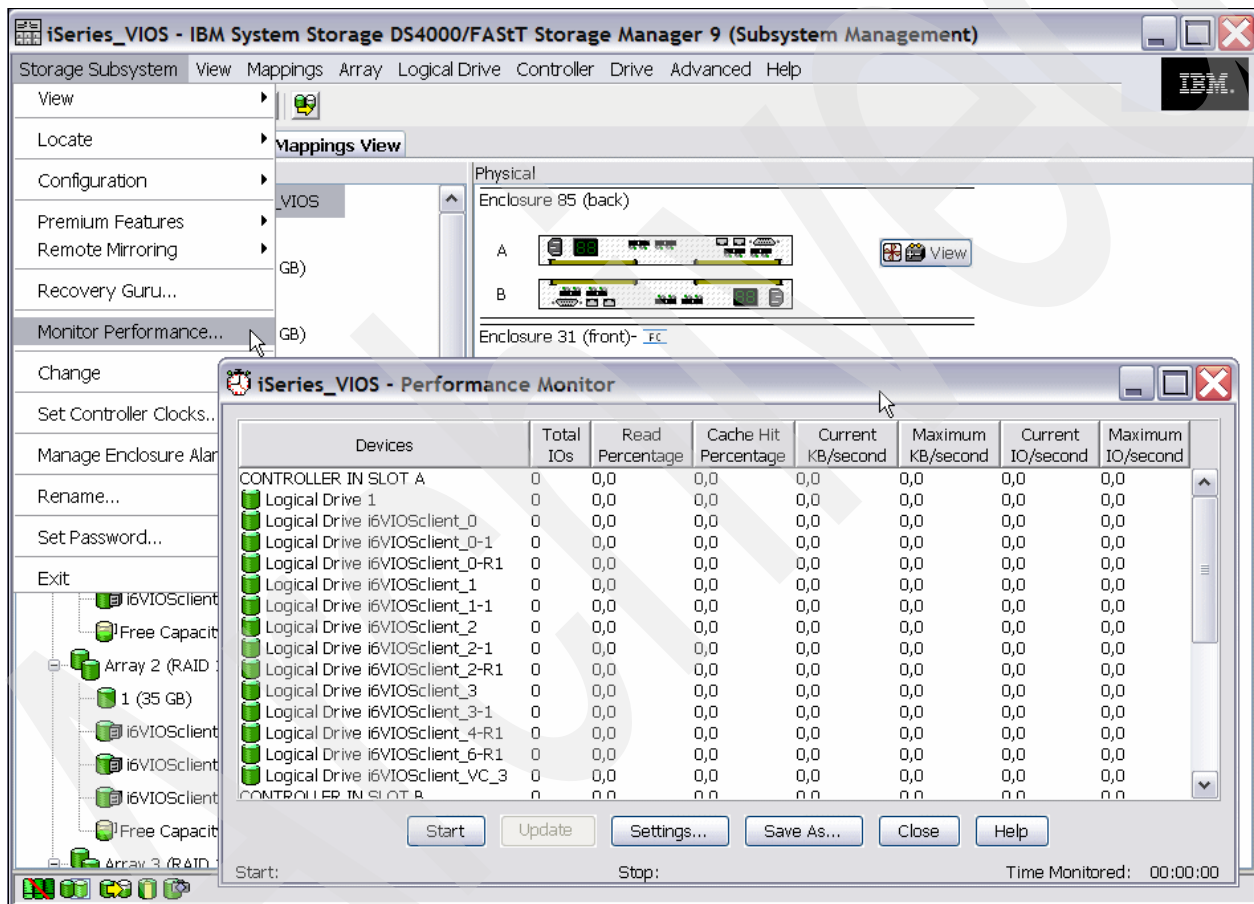

Figure 9-2 DS4000 Performance Monitor
- b. Select the **Storage Subsystem** → **Monitor Performance** pull-down menu option (Figure 9-2).
The Performance Monitor window opens up with all logical drives displayed, as shown in Figure 9-2.